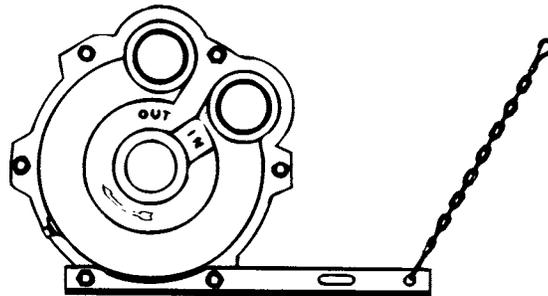

Figure 3. Torque bar and chain assembly, installed
6. To keep pump from rotating with PTO shaft, use a torque bar and chain assembly 33680 (Fig. 3). Bolt bar to pump, using two adjacent flange bolts. Snap one end of chain to the torque bar and the other end to a stationary part of the tractor. Mount the torque bar so the counter force will raise up on